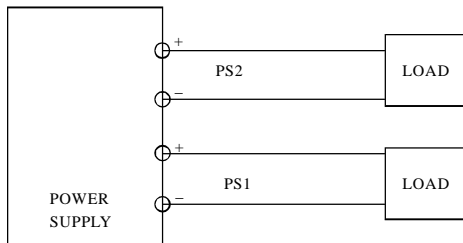

Fig 4-1 Independent operation
- 1 Fig 4-1 illustrates connecting the loads when the supply is in the independent mode. Both the Master and Slave supplies are in the independent mode
- 2 Press the tracking buttons (14) & (15) to the out position
- 4 Turn the power supply on with the Power On/Off switch (22)
- 5 Press the Output/on/off button (29), the Out INDICATOR (28) should turn on
- 6 Rotate the Current control (6) (8) clockwise until the CV indicator (10) (12) is lit
- 7 Rotate the Voltage (5) (7) control to the required output voltage as displayed on the Voltmeter (1) (3)